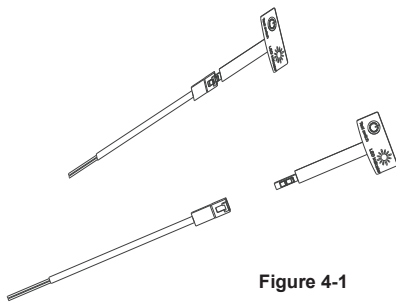

Figure 4-1
1. Disconnect the quick connector of the Adhesive Field Fixture Mount Test Switch and Indicator Light (refer to Figure 4-1).